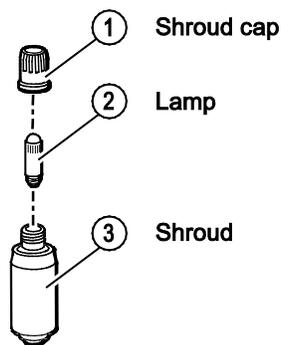

Figure 5
3. Remove shroud cap from shroud by rotating shroud cap counterclockwise. See Figures 5 and 6.